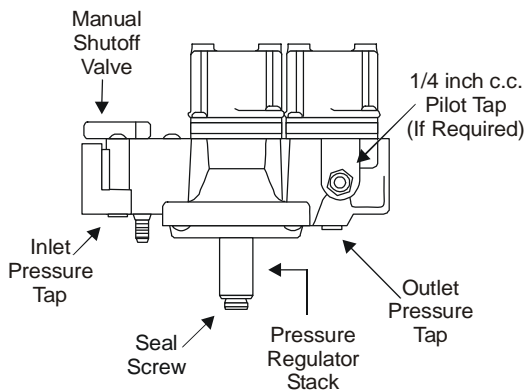

Figure 3: G196 Redundant Combination Gas Valve Features
3. Remove the pressure tap plug at the valve outlet or in the manifold pipe downstream of the valve (Figure 3).